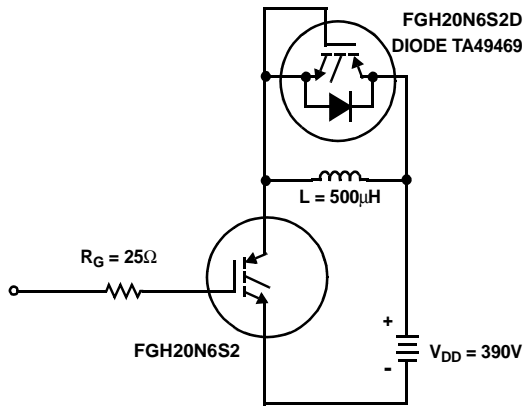

Figure 20. Inductive Switching Test Circuit
- Values for two Turn-On loss conditions are shown for the convenience of the circuit designer. E_{ON1} is the turn-on loss of the IGBT only. E_{ON2} is the turn-on loss when a typical diode is used in the test circuit and the diode is at the same T_J as the IGBT. The diode type is specified in figure 20.